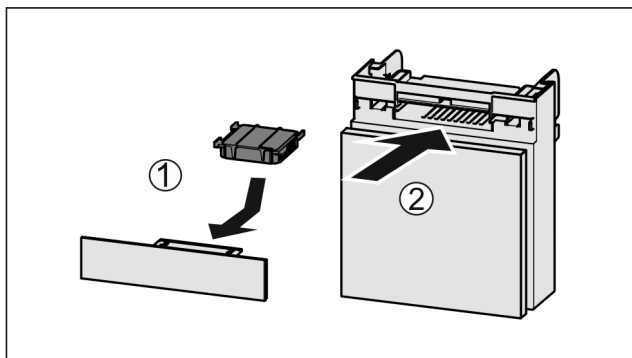

Fig. 226
- ▶ Insert the carbon filter as shown in the diagram Fig. 226 (1).
- ▶ Push the compartment in Fig. 226 (2).